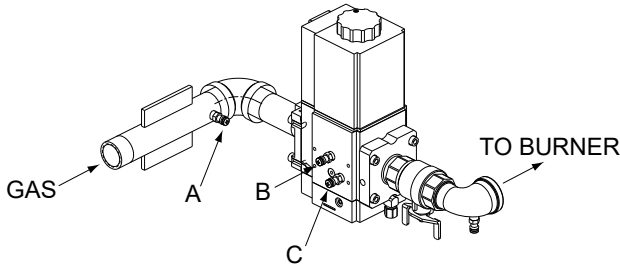

Figure 54. Gas Pressure Measurement Locations
2. Attach (1) 12" scale manometer to an upstream bleedle valve on the gas supply pipe to the heater (Measure point "A" in **Figure 54**).
- Attach (1) 24" scale manometer to the manifold pressure tap located near the shutoff valve downstream of the firing valve (Measure point "C" in **Figure 54**).
- Attach (1) 12" scale manometer on the fan suction pressure hose.